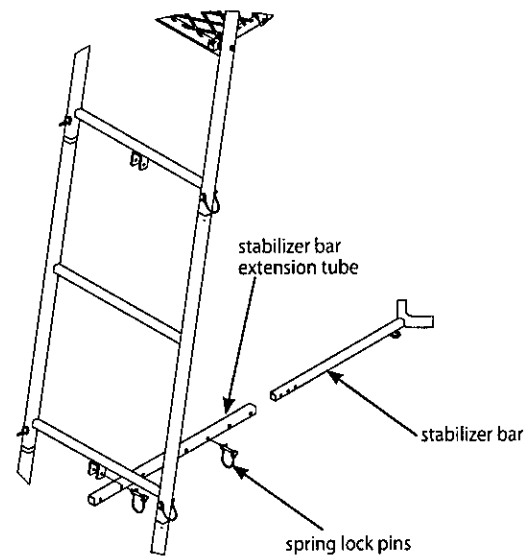

Figure 4
7. a. Attach the stabilizer bar extension tube (1ML23) to the third ladder section mounting bracket using (1) provided spring lock pin. **SEE FIGURE 4.**
b. Slide the stabilizer bar (L29) into the extension tube and attach the two pieces together using (1) provided spring lock pin. Spring lock pin must go through both the extension tube and the stabilizer bar at appropriate hole to achieve desired distance from tree. Adjustment in length may be needed when ladder is upright later in instructions. **SEE FIGURE 4.**